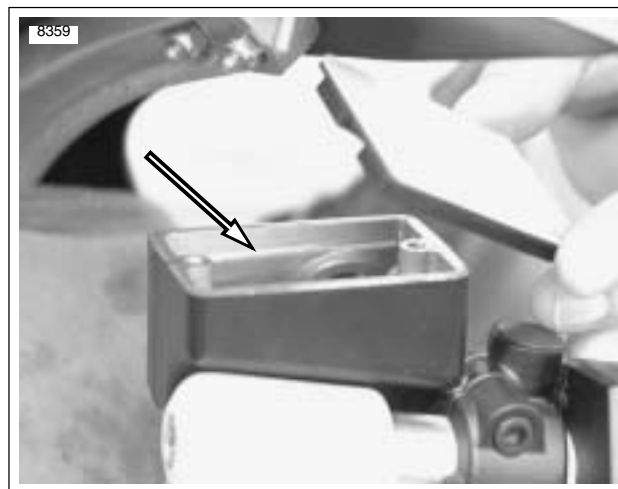

Figure 1-8. Front Master Cylinder Reservoir
3. See Figure 1-8. Remove two fasteners from front master cylinder cover.